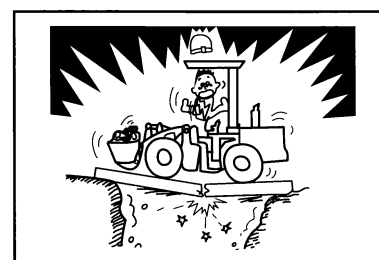

Figure1-74
- Before passing over a bridge or other constructions, please ensure that it has enough solidity to support the loader. (Figure 1-74)